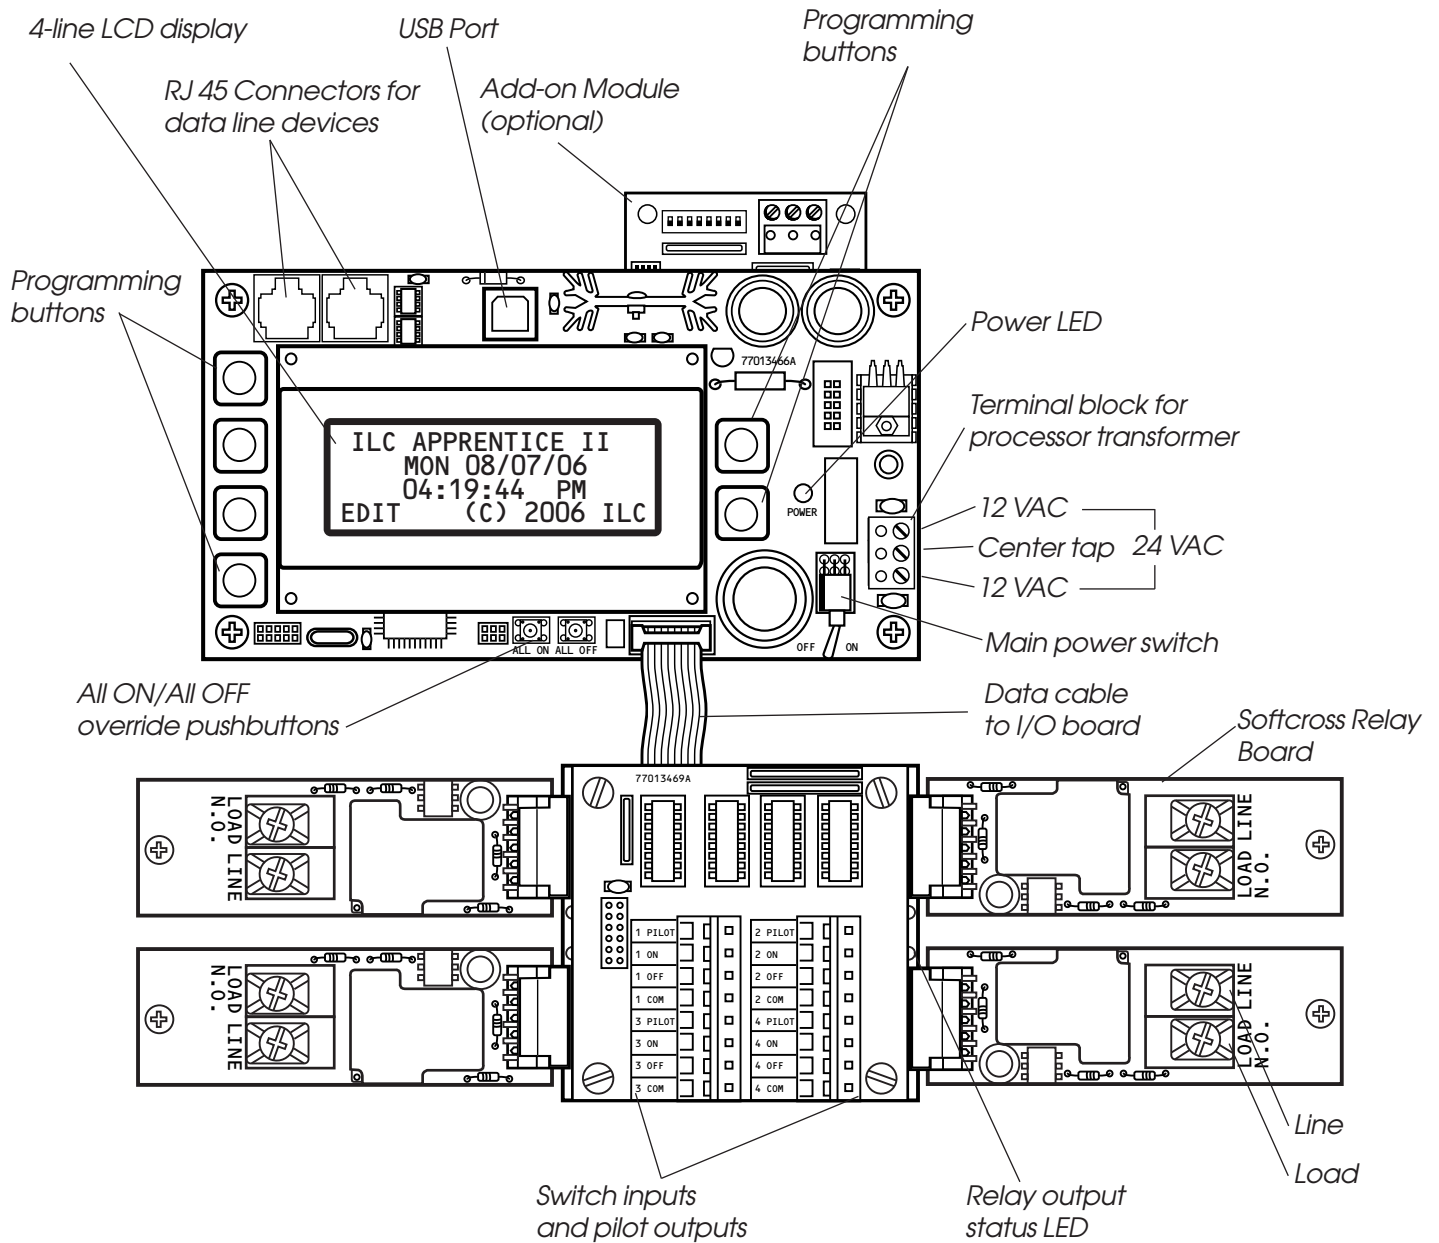

Figure 1.2 – Apprentice II CPU Board and I/O
1.1.3 CPU Board – (See Figure 1.2.) The CPU board provides the controller’s intelligence, memory, and communications capabilities. Major components include: